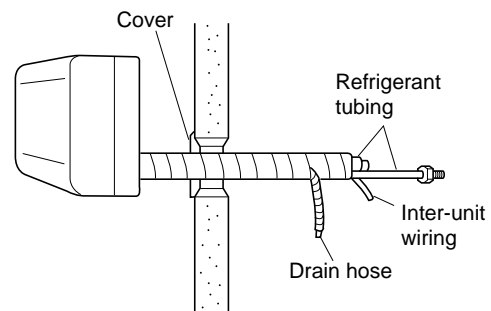

Fig. 3-59
#### (1) Shape the refrigerant tubing so that it can easily go into the hole. (Fig. 3-59)